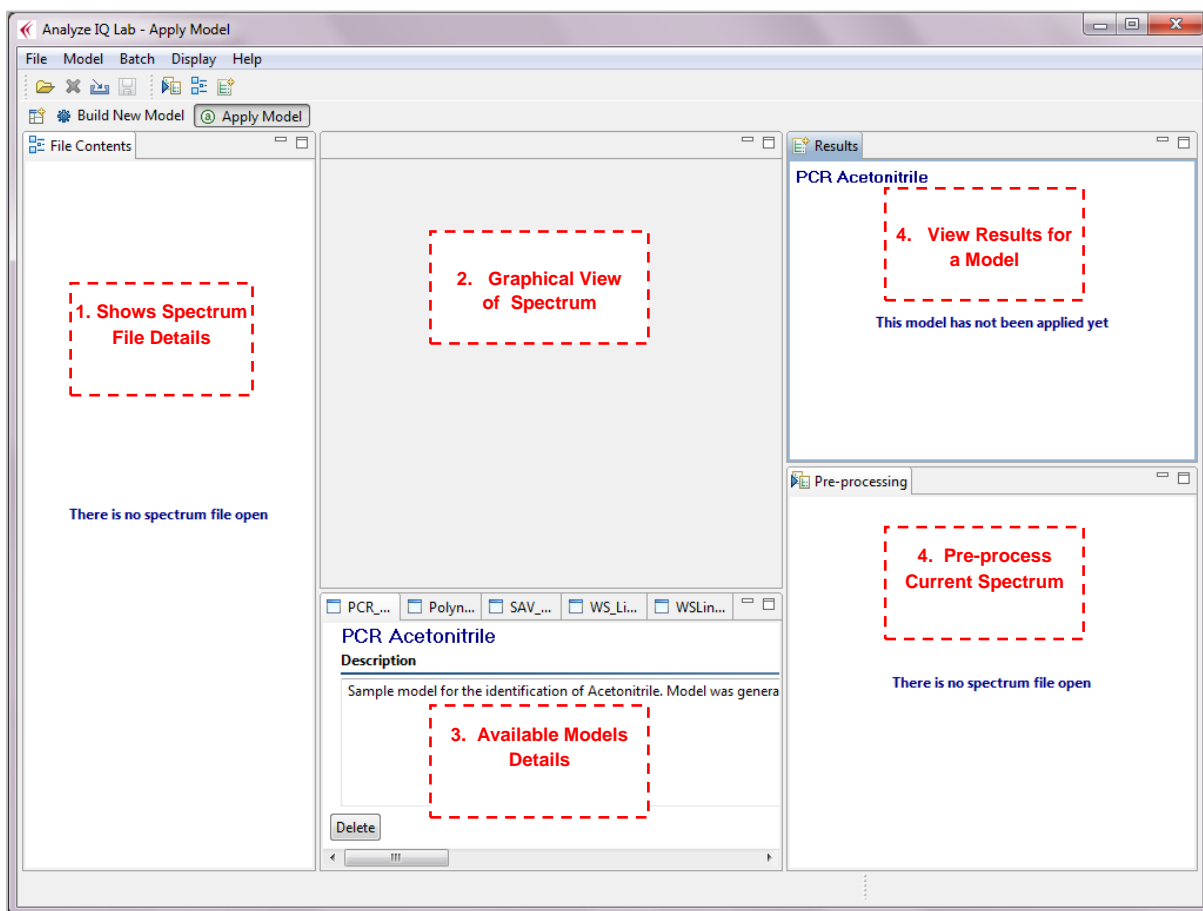

Figure 6: Starting page of Analyze IQ Lab
When the **Analyze IQ Lab** application is first started, you are presented with the *Apply Model* page as shown in Figure 6. (Note that this figure assumes that the sample models were selected in the installation of **Analyze IQ Lab**.) This figure highlights the five areas of this page, which are as follows:
3. **Models:** shows the current set of models that are available for the analysis of the spectrum. Figure 6 shows three pre-built models packaged with **Analyze IQ Lab**.
When **Analyze IQ Lab** is run for the first time, all areas of the *Apply Model* page are empty, unless pre-built models have been shipped with your **Analyze IQ Lab** package, in which case the *Available Models* area lists these models. In the example of Figure 6, three models are available:
To perform an analysis of a spectrum with a model, such as the *PCR Acetonitrile* model shown in Figure 6, you must carry out the following steps: